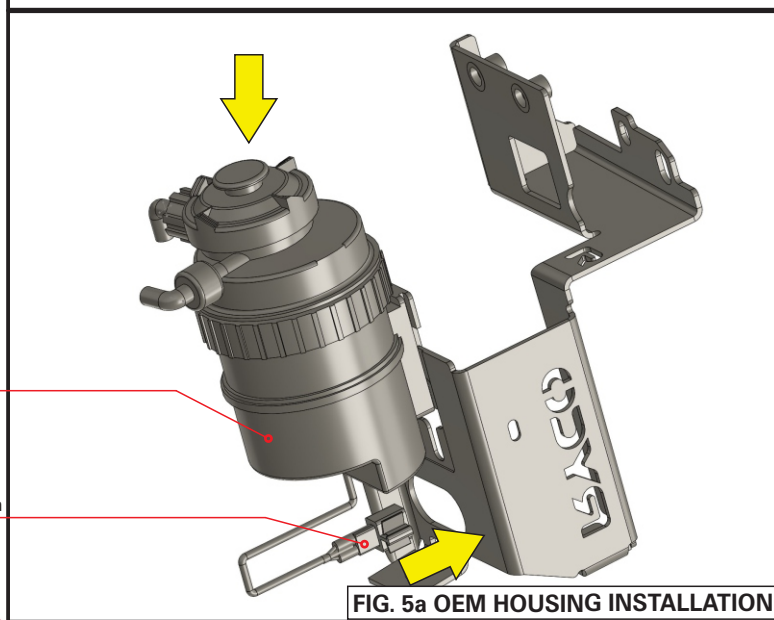

FIG. 5a OEM HOUSING INSTALLATION
11. Install the OEM Fuel Filter Housing by first passing the female OEM Deutsch connector#1 through the opening as shown in Fig.5a. Then mount the OEM fuel filter housing on to its mounting slot as shown in Fig.5a.